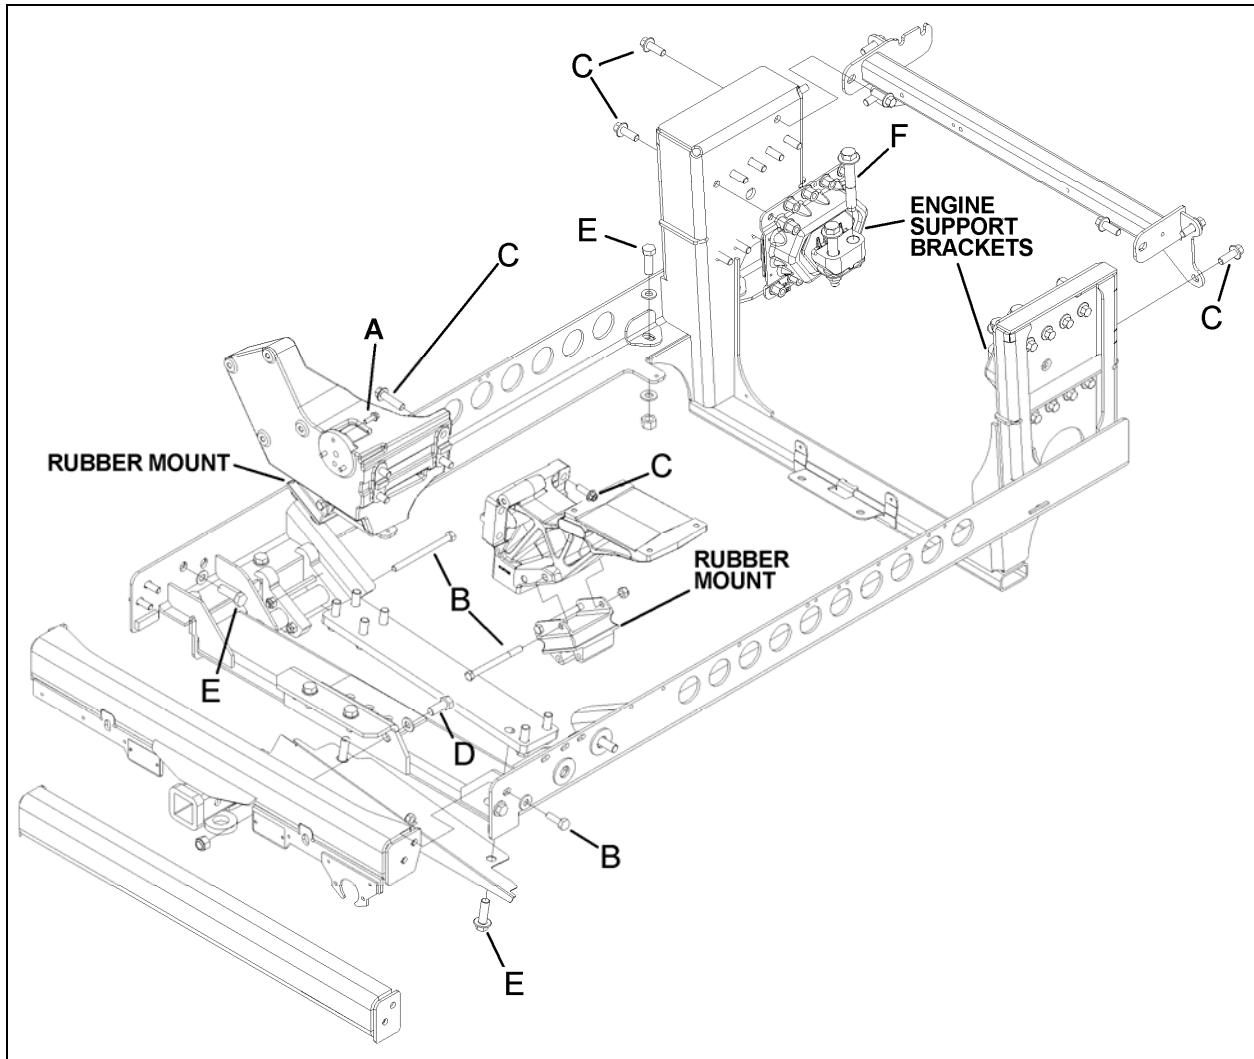

FIGURE 12: VOLVO ENGINE POWER PLANT CRADLE INSTALLATION
2. Make sure the ten retaining bolts, washers and nuts securing the power plant cradle to the vehicle rear subframe are removed (Figure 12).
2. Remove bolts B and D. Untighten bolts A and C then pivot oil cooler as per figure 12. Install bolts B and D and tighten all bolts.
Two engine support brackets are used at the front of the engine while two rubber mounts are mounted underneath the engine & radiator fan drive mechanism support and the engine & alternator support (Figure 12).